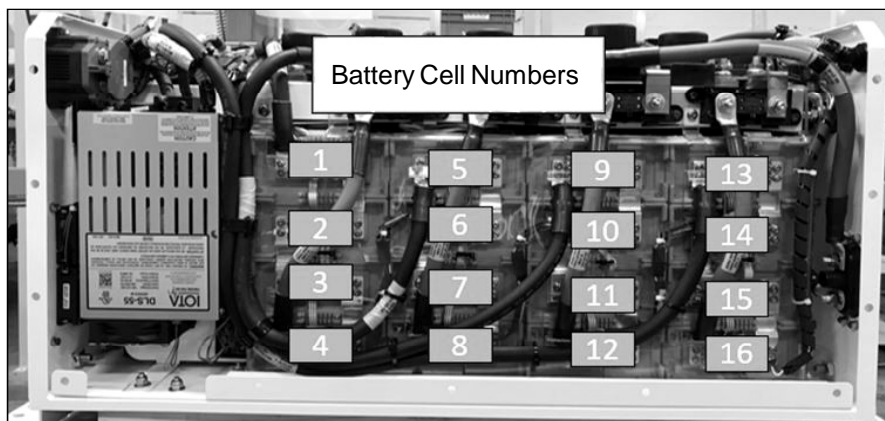

Figure 13 — JEMS 6 Batteries
- JEMS 6 contains 4 battery modules and displays voltages for cells 1-16 (refer to Figure 13).